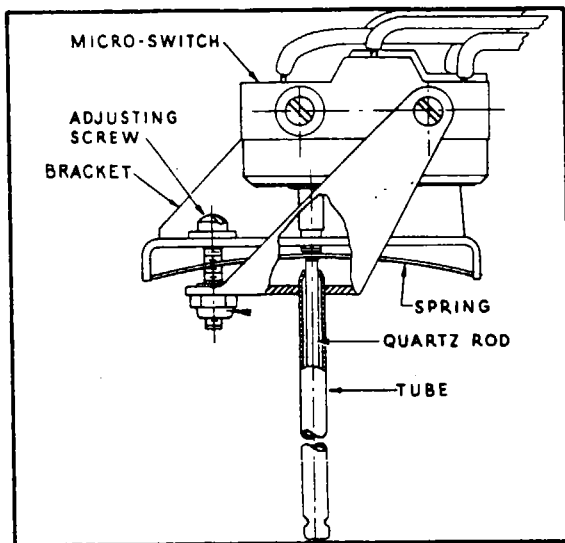

Figure 13-30. Flame Detector Switch (Cutaway View)
b. Back off the adjusting screw (Refer to Figure 13-30.) until the switch clicks.